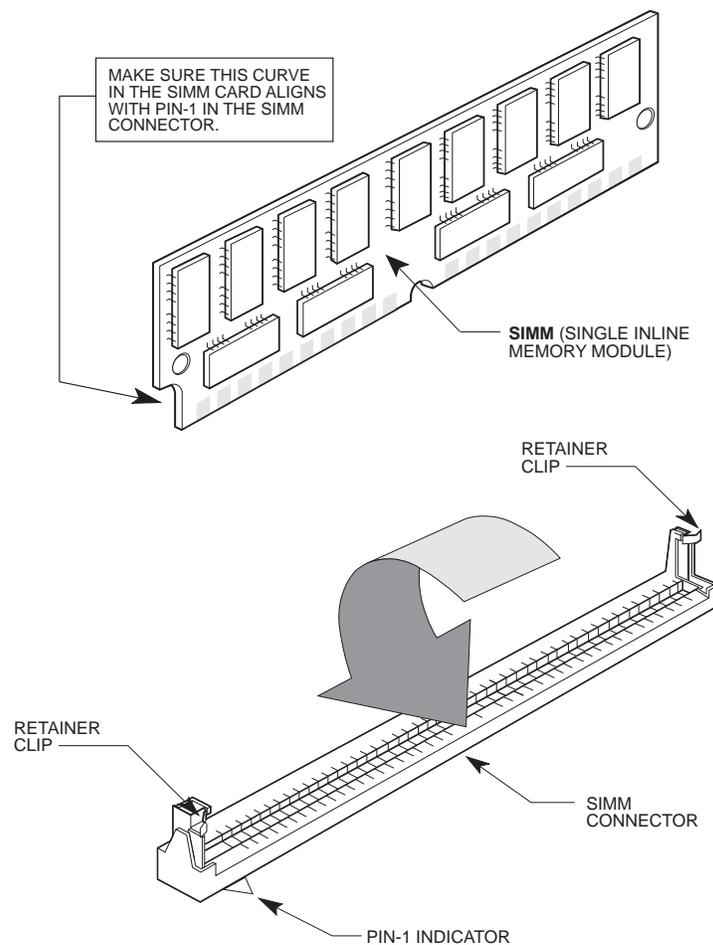

Figure 8: AM-138 SIMM Module Installation
1. Align pin-1 on the external cache SIMM module with pin-1 on connector at J12. Pin-1 on the SIMM module is on the notched end of the module (see Figure 8 below).
1. Insert one SIMM (the larger if the SIMMs aren't of equal capacity) in connector J10. Align pin-1 at the notched end of the SIMM module with pin-1 on the connector, as in Figure 8.